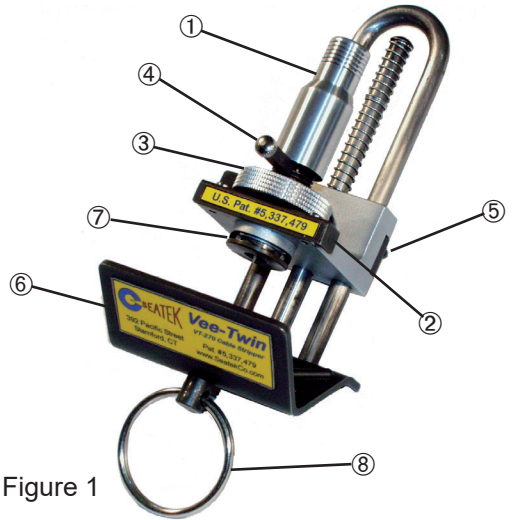

Figure 1
1. Unscrew **Handle** ① (Fig. 1) & remove from tool.
2. Take off **Lever** ② by removing **Thumbscrew** ③.
3. Remove **Phillips Head Screw** ④ and discard old **Blade** ⑤. Install new blade & retighten screw ④.